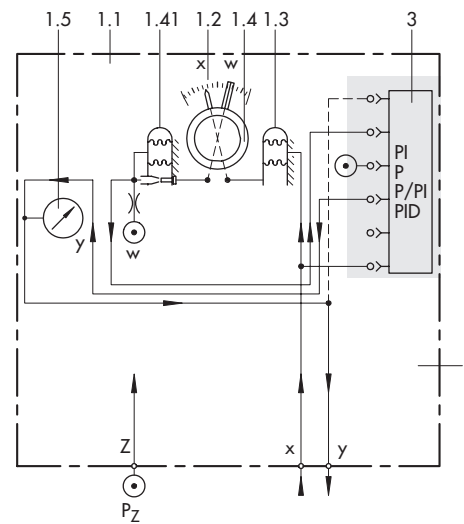
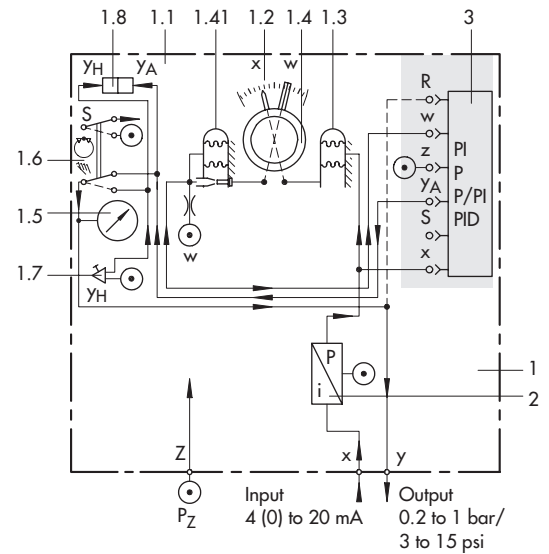

Fig. 4 · Fixed set point controller for pneumatic standardized signals, version with Type 3431-01, functional diagram
Fig. 7 · Fixed set point controller for electric standardized signals, version with Type 3431-02 Controller Station
Principle of operation (see Figs. 4 to 7)
The controller station (fixed set point controller with pneumatic input) shown in Fig. 4 consists of scale (1.2), controlled variable display (1.3), set point adjuster (1.4), and plug-in connections for a controller module (3). These pneumatic connections are self-sealing when the module is unplugged. The controlled variable signal x produces a deflection on the bellows measuring system of the controlled variable display (1.3) which is transmitted to the pointer over a gear mechanism. The set point (reference variable w) can be adjusted on a scale (1.2) at the controller front. The position of the set point adjuster is transmitted to the set point transmitter (1.4) over a gear mechanism. This servo system (1.41) converts the adjusted set point into a pneumatic set point signal (w), which is fed to the controller module. The controller module compares the controlled variable signal and the set point signal (x and w) and produces an output signal y_A depending on the system deviation and the adjusted control parameters. The output signal is connected to the output signal display (1.5) and output y .
The controller station shown in Fig. 5 largely corresponds to the version shown in Fig. 4. However, the station additionally contains a manual/automatic switch (1.6), a manual adjuster (1.7), and a differential pressure display (1.8). When the switch is in position AUTOMATIC, the output signal display (1.5) and output y are connected with the automatic output signal y_A . When the switch is in position MANUAL, the output signal display and output y are connected to the manual output signal y_H set at the adjuster. Smooth changeover from manual to automatic operation is possible when the differential pressure display indicates that y_A and y_H are identical. The follower controllers are not equipped with a set point adjuster (1.4); they come with a set point display. The version shown here includes a pneumatic input for the external reference variable w_{ext} .
The versions with i/p converter (Fig. 7) are designed for connection of 4 to 20 mA or 0 to 20 mA electric input signals (controlled variable x). The standardized input signal of a transmitter is fed to the i/p converter (2) and converted into a pneumatic standardized signal from 0.2 to 1 bar. The controller stations largely correspond to the versions shown in Figs. 4, 5, and 6. However, the stations additionally contain an i/p converter (2) whose output signal is applied to the bellows measuring system of the controlled variable display (1.3) and the controller module (3). Follower controller with electric input $w_{ext} = 4$ to 20 mA or 0 to 20 mA are equipped with an additional i/p converter. The controller stations can be equipped with various controller modules, e.g. with Type 3434 for common P or PI control, with Type 3433 for P, PI, PID and PD control as well as with additional modules for special control tasks. For details on the controller modules refer to Data Sheets T 7040 EN and T 7041 EN. The controller stations can optionally be equipped with 1 or 2 adjustable inductive limit switches.